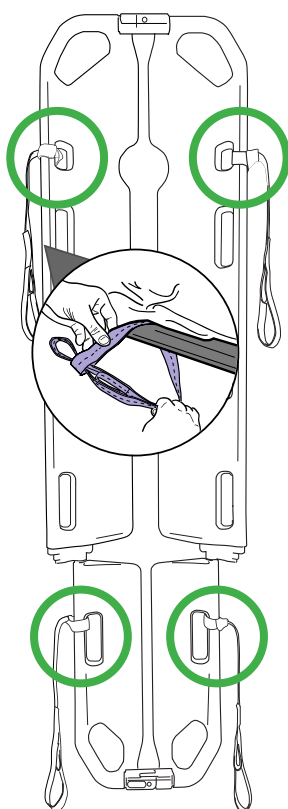

Fig. 3
- 3) Make sure that the *DUAL-LOOP ATTACHMENT STRAPS* have been installed in the correct locations. If the four straps have not yet been attached to the *Ferno Scoop EXL Stretcher*, proceed to attach them according to the precise locations and in the correct way as shown in Fig. 3.